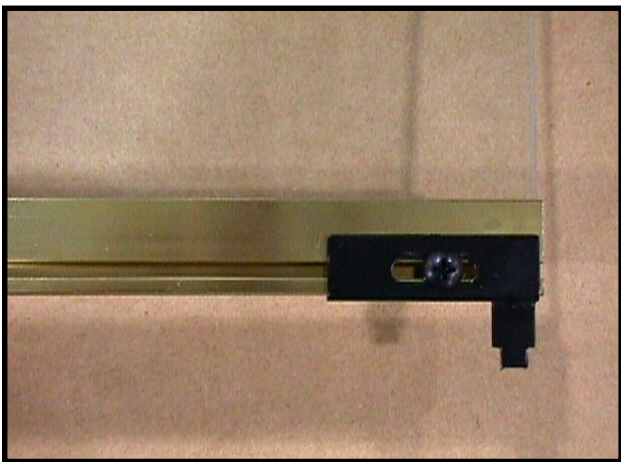

Figure 3
- Slip a nylon washer over the bottom pivot bracket pin. See Figure 3 for pivot pin close-up.
- b. Adjust the doors at the bottom by loosening the screw that holds the pivot bracket and slide them either way. Tighten the screws to secure the adjustment. See Figure 3 for pivot bracket/pivot bracket pin close up.